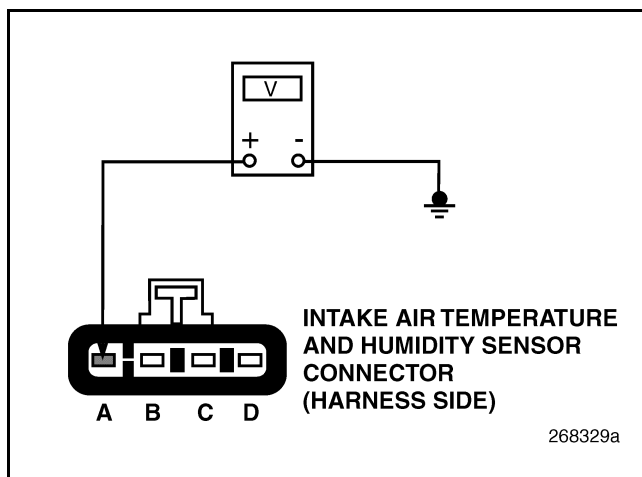

Figure 330
4. Measure the voltage between IATH Sensor harness connector pin A (reference voltage line) and a good ground (see Figure 330).